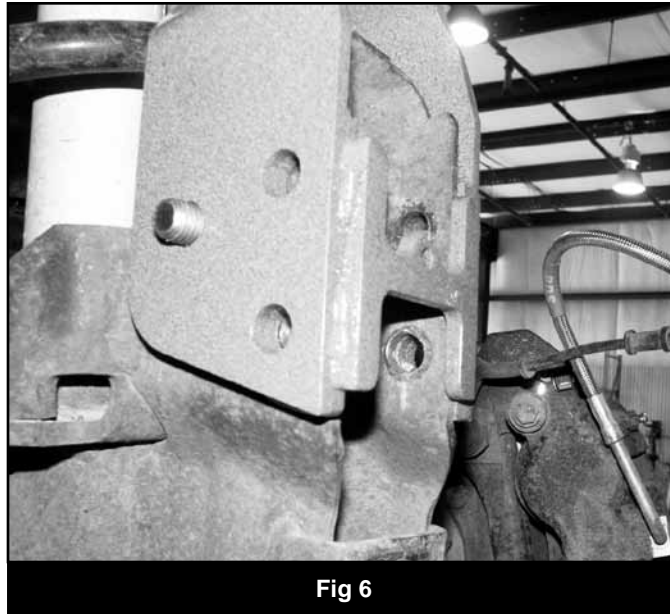

Fig 6
28. Adjust the control arm relocation bracket so the backing plate is parallel to the back edge of the original axle mount and mark the four holes to be drilled (two inner and two outer). Remove the bracket and drill 9/16" holes at the marks. (Fig. 6)